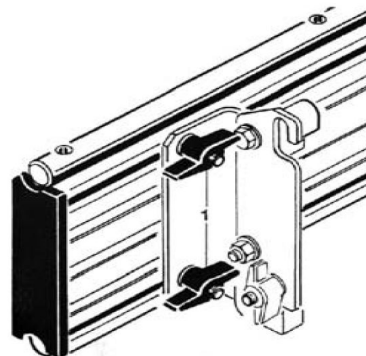

Fig. 22: Adjusting the sliding rail
Step 1: Loosen the two wing nuts on the left and right of the bracket (Fig. 22).